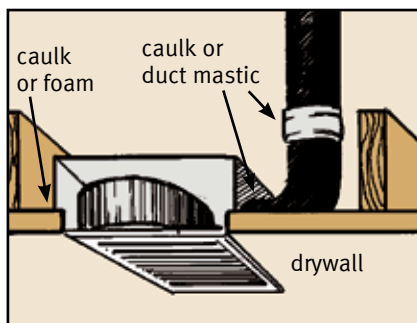

Figure 8 - Exhaust fan
- **Exhaust fans.** Duct the fan to the outside. Use a tightly constructed box to cover fan housing on attic side. Seal around the duct where it exits the box. Seal the perimeter of the box to the drywall on attic side (see Figure 8).